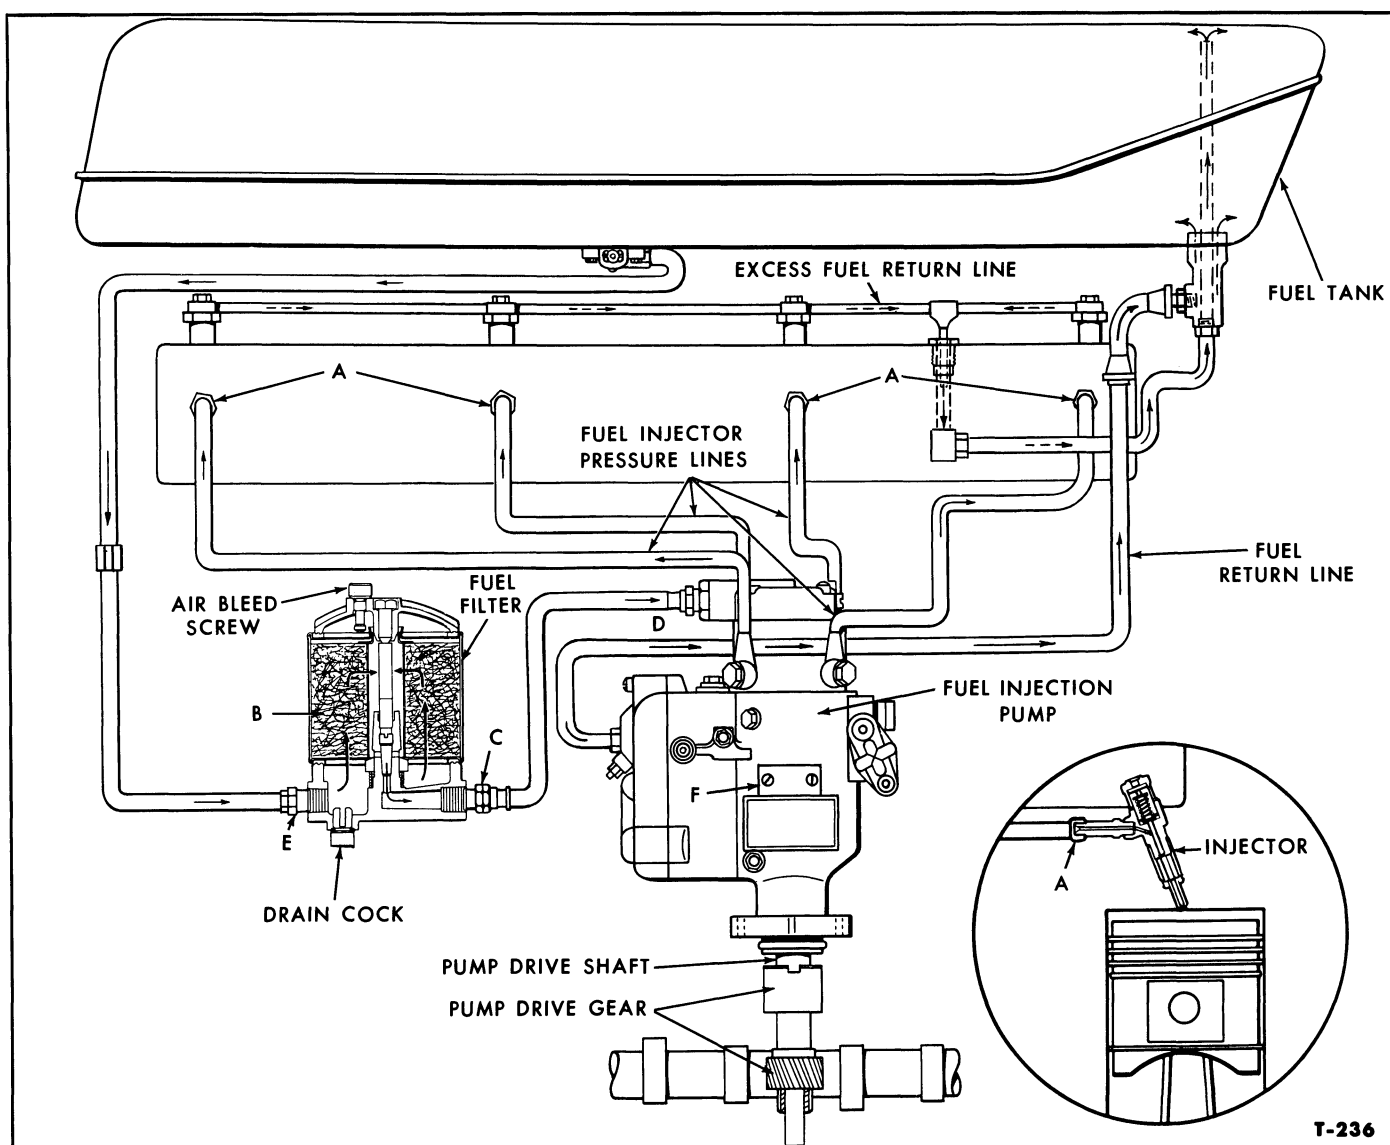

Figure 22—Diesel Fuel System
3. Disconnect the fuel line at (D), Figure 22. If fuel does not flow freely from the line, check for a clogged fuel filter or an obstructed line between this point and the tank. Make the necessary repairs, and bleed the fuel system.
inspection window cover (F) from the fuel injection pump. Crank the engine with the starter and observe the injection pump rotor. If the rotor does not turn, the pump drive shaft may be broken, or the pump drive gear and/or engine camshaft gears can be stripped, Figure 22. Make the necessary repairs and time the engine.
5. If the engine still will not start, loosen the nut (A) at each injector. Crank the engine with the starter to make sure that fuel is reaching the injectors. If fuel is reaching the injectors, remove them from the cylinder head and rebuild or replace them as required.
2. If bleeding the system does not correct the trouble disconnect the fuel line and check the flow of fuel at (D), see Figure 22. If the fuel does not flow freely, clean the obstruction from the lines or replace the fuel filter (B) as required.
1. Disconnect fuel line fitting (D), Figure 22, to make certain that an adequate supply of fuel is reaching the injection pump. If the fuel supply is insufficient, replace the fuel filter, bleed the lines or remove any obstructions that may be present.